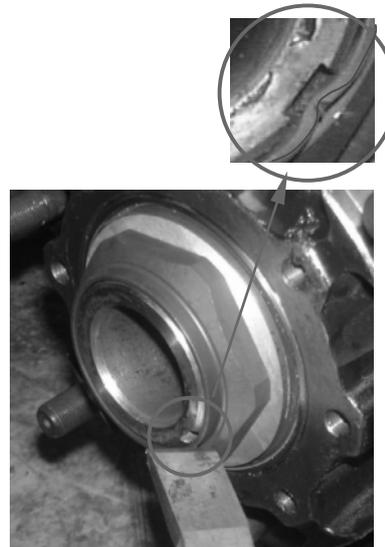

Figure 4: Hub nut and tang washer fully up
- 5) Run-up the new hub nut fully (see Figure 4) and using hub nut socket VH 10732280 apply initial torque as follows: